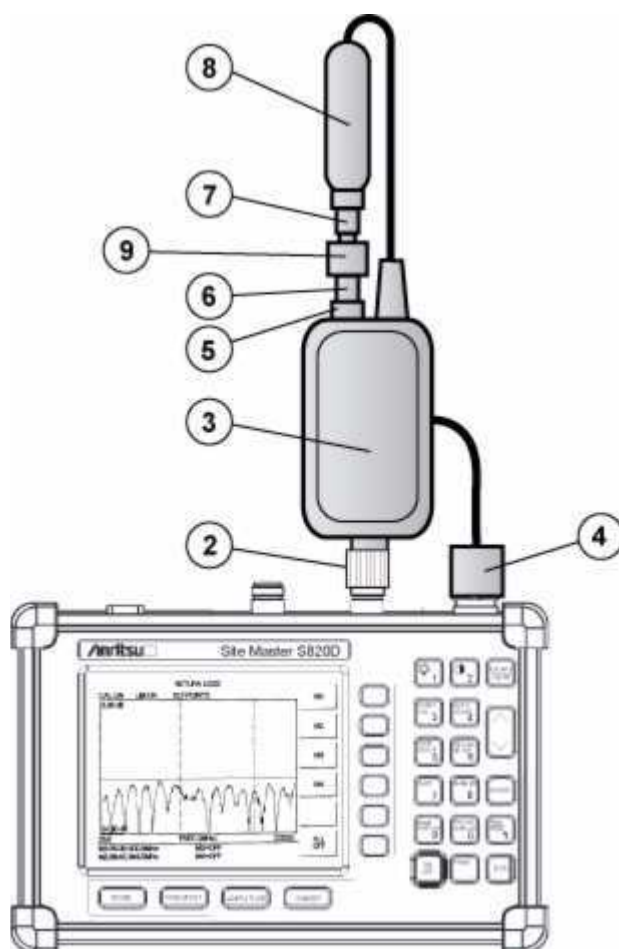

Figure 2-11. Two-Port Cable Loss Measurement Verification with 10 db Attenuator
- When using the Anritsu CWM220NF CW Source Module and the Anritsu 560-7N50B RF Detector, insert Anritsu 34NKF50 and 34NFK50 adapters between the CWM220NF and the 560-7N50B, as shown below in Figure 2-11 below
Table 2-4. Callout Index for Figure 2-11, “Two-Port Cable Loss Measurement Verification with 10 db Attenuator”